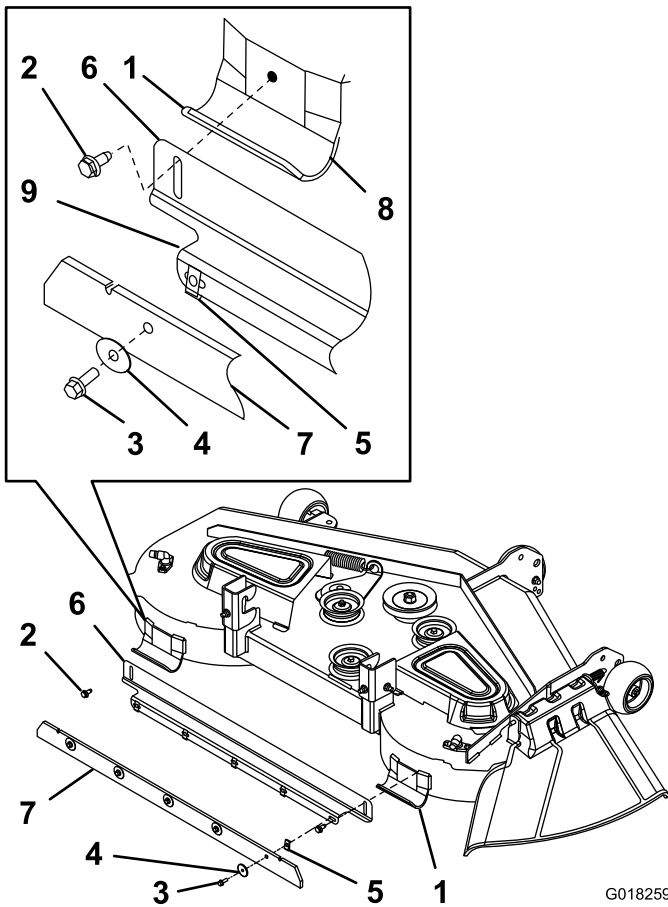

Figure 2
1. Locate the left and right skids on the rear facing side of the mower deck as shown in Figure 2.
2. Align the striping bracket so that the mounting flange is up and facing the mower deck (the wiper flange is down and away from the deck) as shown in Figure 2.
3. Center the wiper flange of the striping bracket between the skids and align the top edge of the striping bracket with the top edges of the skids (Figure 2).
4. Using the striping bracket as a drilling template, locate hole position for the left or right skid, centered at the top of the slot in the mounting flange. Drill a hole in the skid using a 9/32 inch drill bit (Figure 2).
5. Secure the mounting flange of the striping bracket to the drilled skid with a self-threading, washer-head screw (Figure 2).
of the slot in the mounting flange. Drill a hole in the skids using a 9/32 inch drill bit (Figure 2).
8. Secure the unattached end of the striping bracket to the skid with a self-threading, washer-head screw (Figure 2).